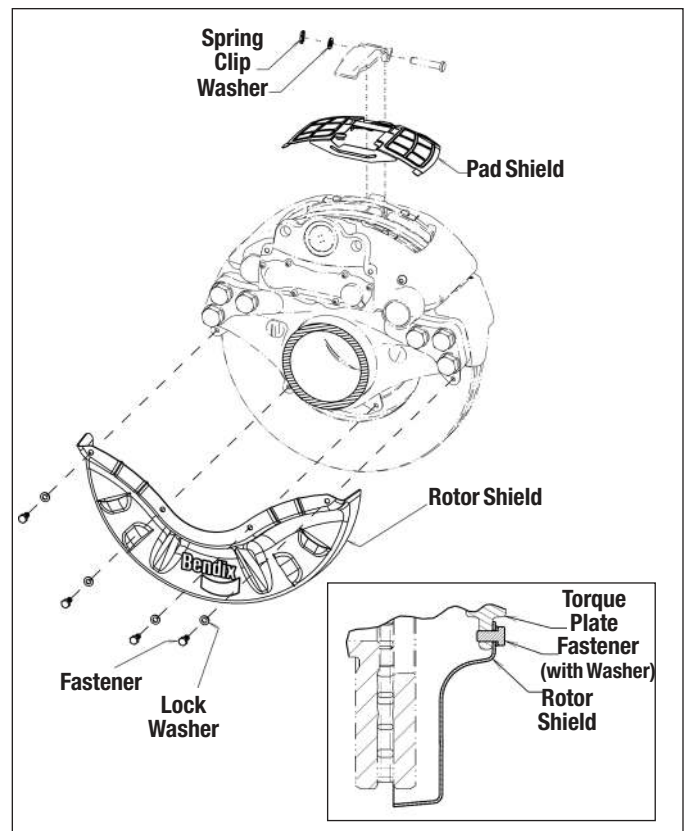

Figure 32 – Trailer Axle Exploded View with Inset Showing Rotor Shield Installation
5.1.4 **Trailer Axle Rotor Shields** (See Figure 32). Position the rotor shield with *the torque plate between the shield and the rotor*. With one (supplied) lock washer in place on each cap screw, pass the screws through the shield before mounting onto the threaded torque plate holes. Torque the cap screws to 24 ft-lbs (32.5 Nm).